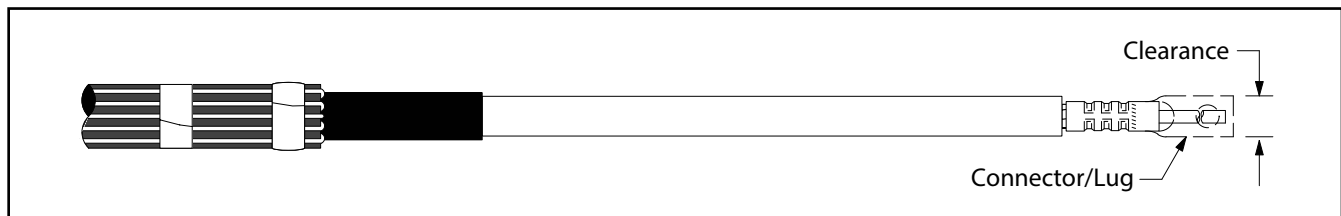

Figure 4
3.1 Check to insure 3M™ Cold Shrink QT-III Silicone Rubber Termination assembly fits over the selected lug or connector. If lug or connector (Figure 4) will not fit through the termination core, clean the insulation (per Step 4.0) and slide termination on cable before installing lug or connector. **DO NOT REMOVE CORE AT THIS TIME.**